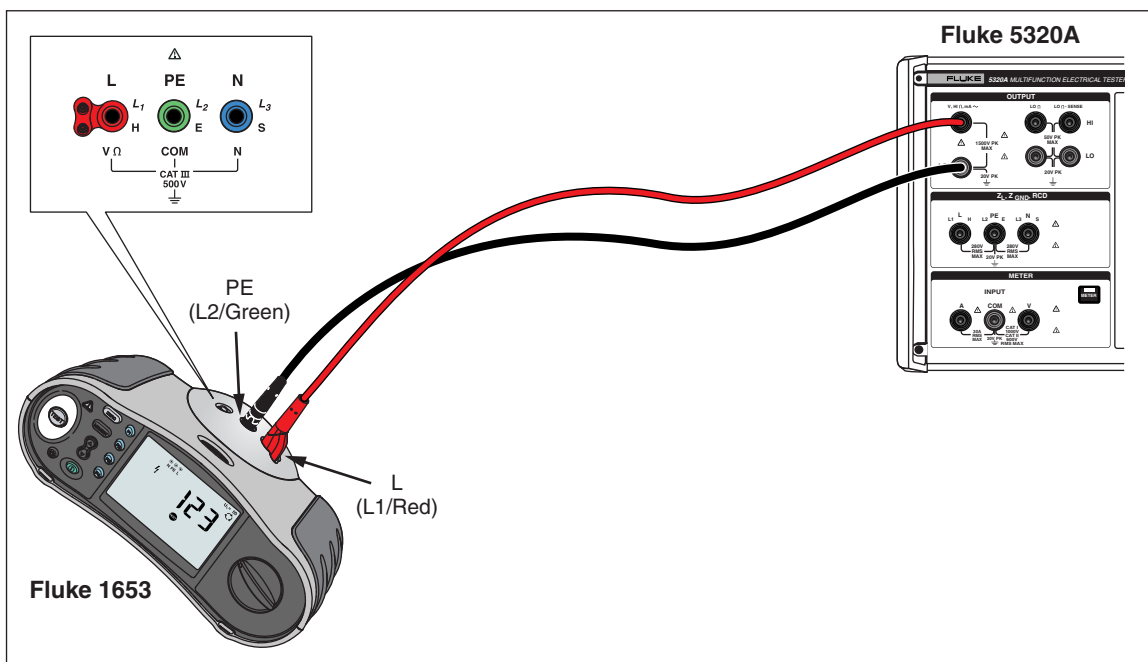

Figure 7-18. Voltage Calibration on Battery-Powered Installation Testers
1. Using Figures 7-18, 7-19, or 7-20, connect the UUT to the Calibrator’s Output **V HI** and **LO** terminals.